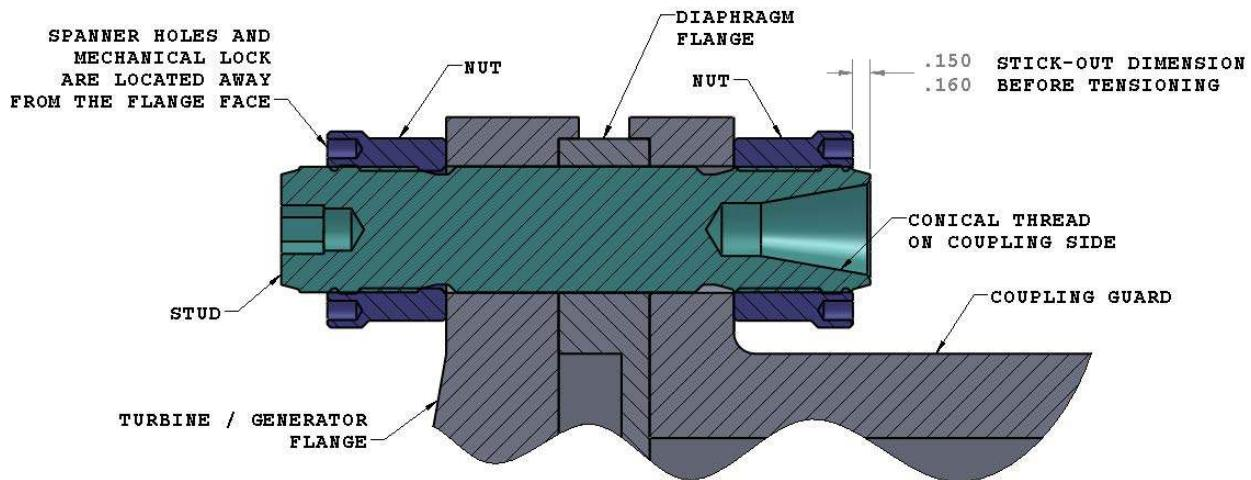

Figure 1 – Section View of a Hardware Set
2. Slide the stud and nut assembly into the flange from the coupling side as shown in Figure 1. Then install the other nut on the backside of the flange.
All tensioning (pulling) will be performed from the tapered thread end of the stud with orientation of the stud to the flange as shown in Figure 1.